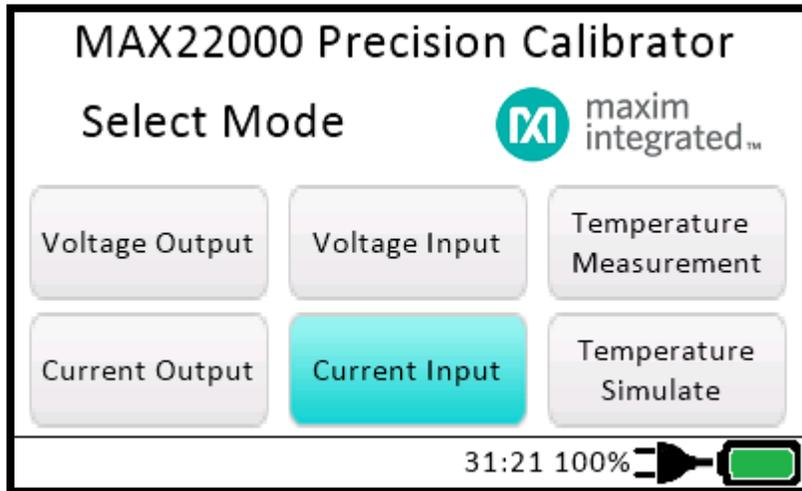

Figure 13. MAXREFDES183# Current Input mode.
16. To measure current, click on the **Current Input** button (**Figure 13**).